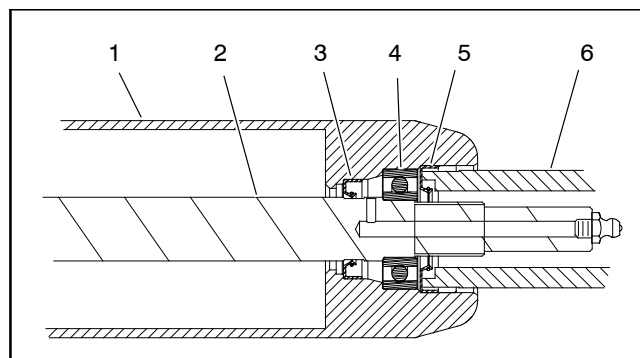

Figure 53
D. Carefully install first outer seal into roller tube making sure that seal lip (and garter spring) faces end of tube. Use bearing/outer seal tool (see Special Tools in this chapter) and soft face hammer to lightly seat seal (Fig. 53). Make sure that shaft and bearings still freely rotate after seal installation.